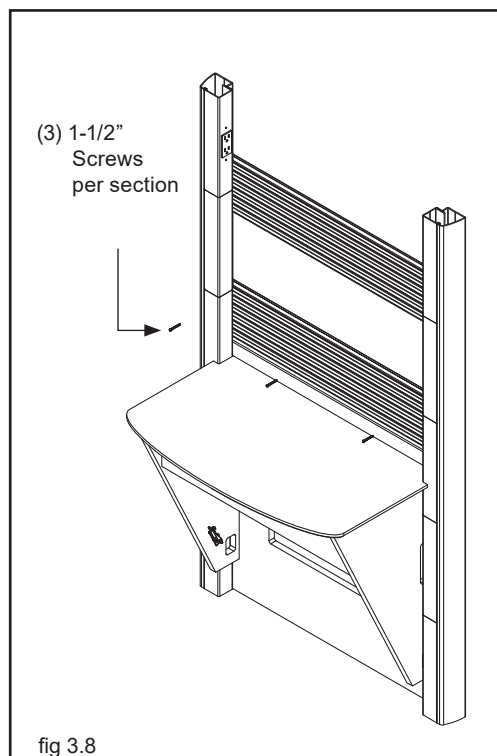

fig 3.8
1. Carefully slide first Slat Wall section behind Side Posts and down, until flush with Backsplash (fig. 3.8.A).
1. Apply a small bead of Silicone inside the groove on the underside of the Corian Top Cap as shown in figure 3.8.